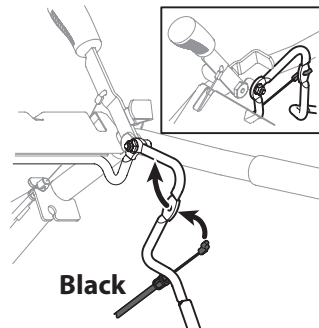

Figure 7
2. The forward clutch control cable (black) is hanging loosely near the right-side wheel. Being careful not to kink or stretch the cable, route the cable on top of the lower handle and under the handle panel then insert the Z-connector into the hole at the end of the forward clutch control linkage going from the outside inward. See Figure 7.